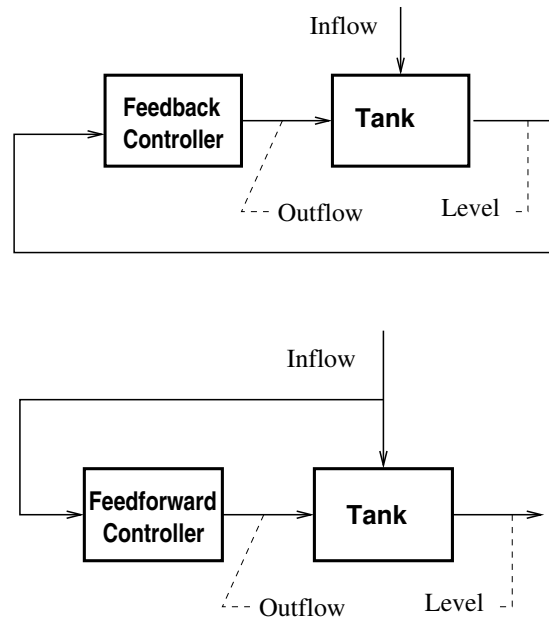

Figure 1.5 Feedback (top) and feedforward (bottom) control of the tank level in Problem 1.6 (Extra).
1.6 (Extra) The left system uses *feedback* from a level sensor to adjust the outflow. The right system uses *feedforward* from a flow sensor in the inflow to adjust the outflow. The two block diagrams are shown in Figure 1.5.